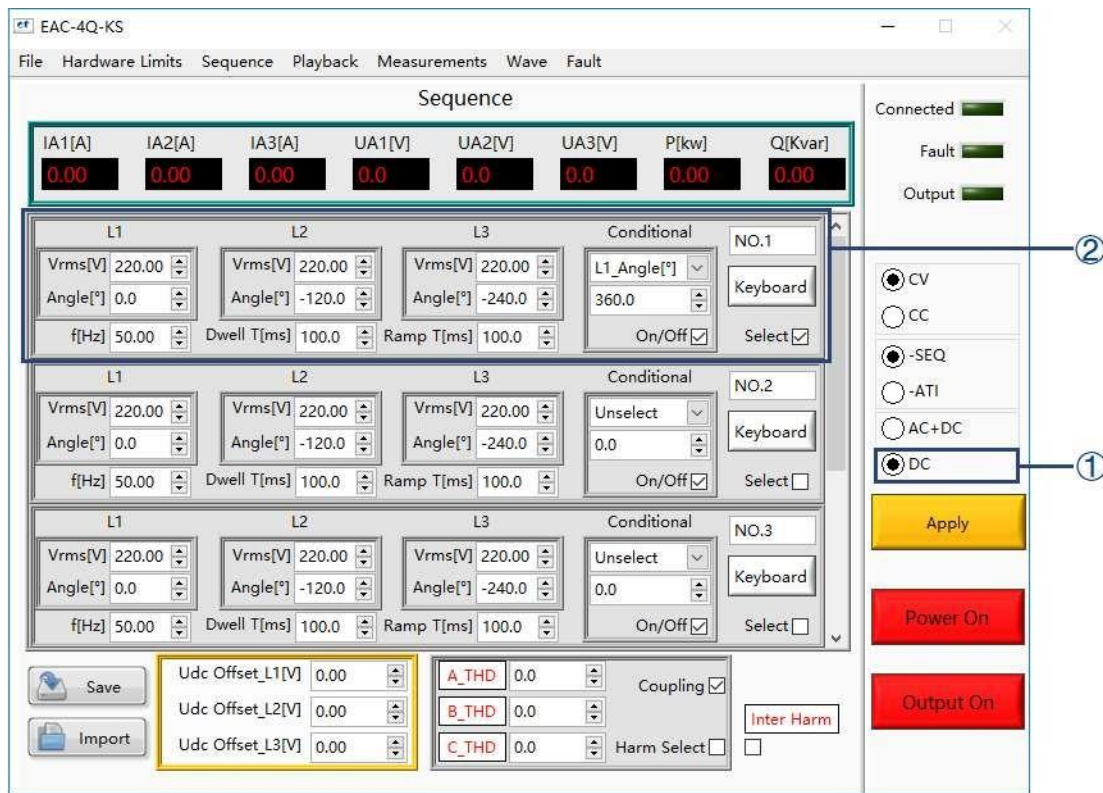

Figure 5-14 DC output mode
Click "Sequence Mode" to enter the sequence mode test panel, select the DC output mode (DC) on the right side(Figure 5-14①), the user can select different operating modes (CV/CC) according to the test requirements, and set the DC voltage/ Current (Figure 5-14②). When the parameter setting is completed, click "Apply"→"Power On"→"Output On" in turn, the power supply is on and outputs DC voltage/current.